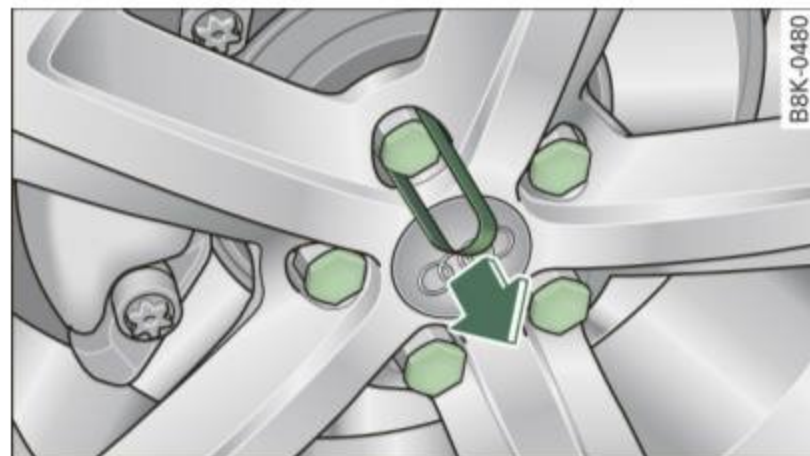

Fig. 222 Changing a wheel: removing the wheel bolt caps
- Pull on the **plastic clip** to remove the cap ⇒ fig. 222.